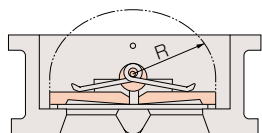

Fig.4
- Make sure that the end of a pipe or gasket does not come within the operating radius of the plate of the Bata-Check valve. (Fig. 4)